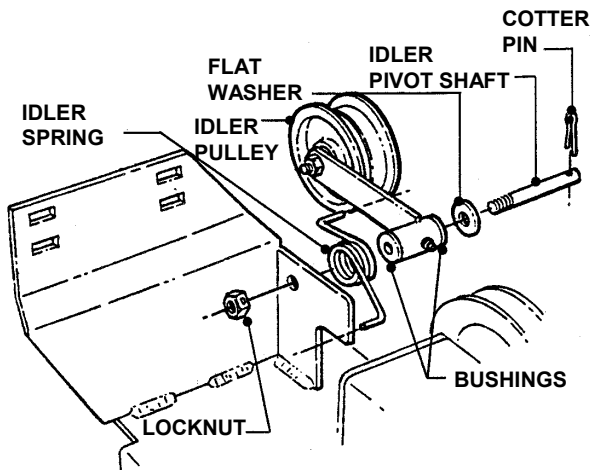

FIGURE 1.6
2. Align the blower support assembly with the four (4) holes in the side of the frame and secure with four (4) 5/16-18 x 3/4" carriage bolts and Nyloc nuts.
3. Install the idler pulley assembly as shown in Figure 1.6.